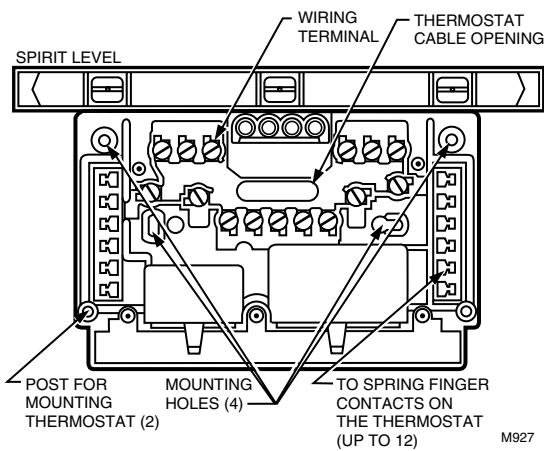

Fig. 6. Subbase components and leveling procedure.
2. Pull wires through the cover plate (if used) and subbase cable opening. See Fig. 6.